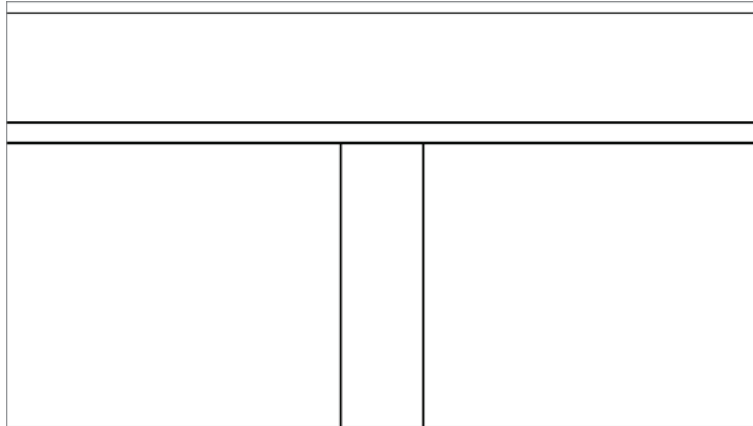

FIGURE 12.64 The detail up to this point
17. Compare your lines with the lines in Figure 12.64.